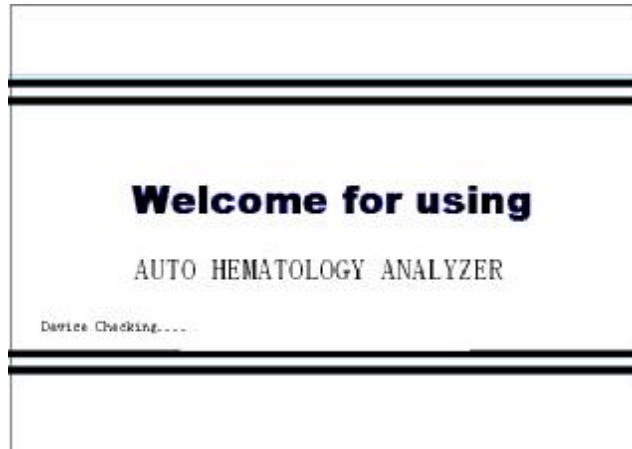

Figure 3-1
3. Initialization interface displays as in Figure 3-1. The system will check hardware automatically and clean the pipelines and make the background determination.